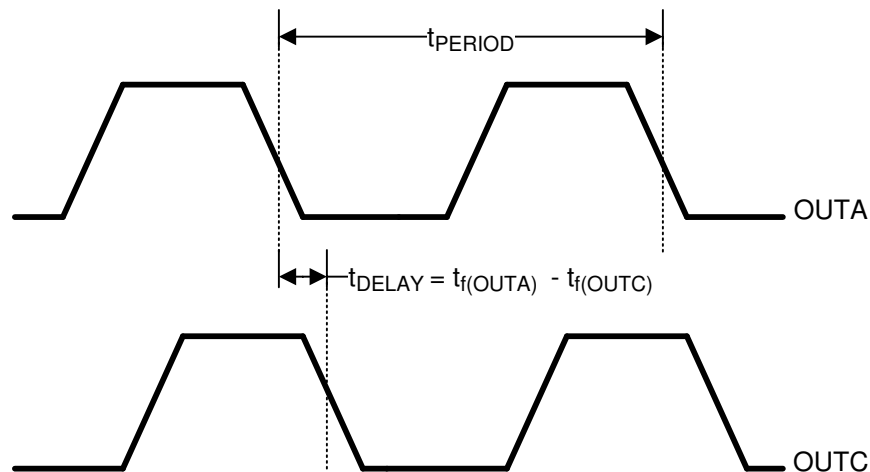
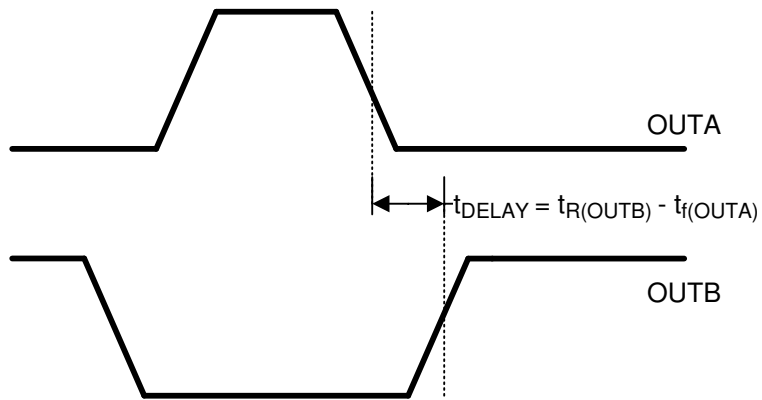

Figure 1. Same Applies to OUTB and OUTD
Figure 2. Same Applies to OUTC and OUTD
(2) Output delay is measured between OUTA and OUTB, or OUTC and OUTD. Output delay is defined as shown below where:  $t_{f(OUTA)}$  = falling edge of OUTA signal,  $t_{r(OUTB)}$  = rising edge of OUTB signal (see Figure 1 and Figure 2).